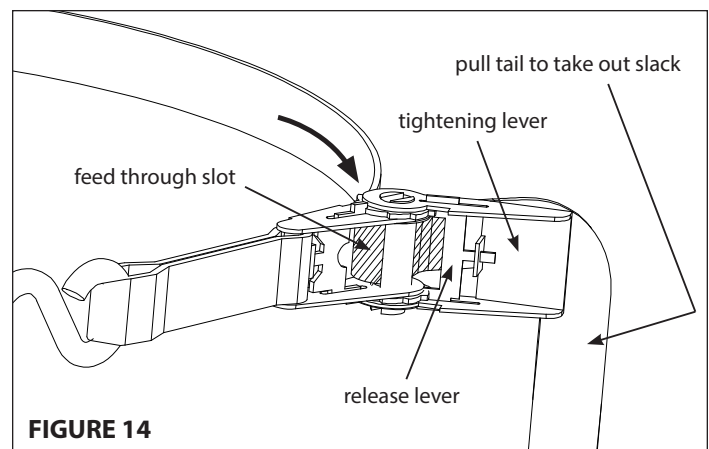

FIGURE 14
- a. With stabilizer bar ratchet strap (37) now in hand, wrap the strap around the tree and feed the long strap through the center slot of ratcheting mechanism and back around through tightening lever. **SEE FIGURE 14.** Secure the ladder tight so the stabilizer bar (4 and 5) is at a right angle to the tree. Adjust stabilizer bar length as necessary so it contacts tree. Be absolutely sure the contact points on platform and the contact points on stabilizer bar bark biting plate are all contacting tree.
4. a. With long criss cross ratchet strap with S-hook (36) now in hand, feed the long strap hanging down from platform through the center slot of ratcheting mechanism and back around through tightening lever. **SEE FIGURE 14.**
6. Once platform is reached, hook S-hook with long strap through hole provided in upper tree blade frame. Feed the long strap through the center slot of ratcheting mechanism and back around through tightening level. **SEE FIGURE 14 AND 19.**
8. Repeat steps 6 and 7 for the platform tree blade attachment. Place S-hooks through holes provided on bottom tree blade. **SEE FIGURES 14, 19 AND 20.**